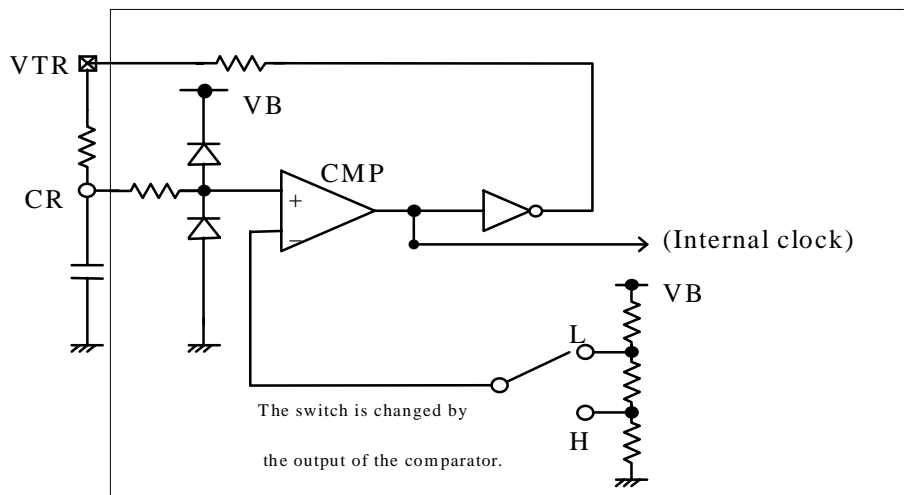

Fig. 4 Equivalent circuit around CR, VTR
- The frequency of the internal clock is decided by a resistance and a capacitor which are connected between these two terminals. Fig. 4 shows the equivalent circuit around these terminals. The internal clock is used for generating power supply for top arms. Approximately, the frequency can be calculated by this equation,